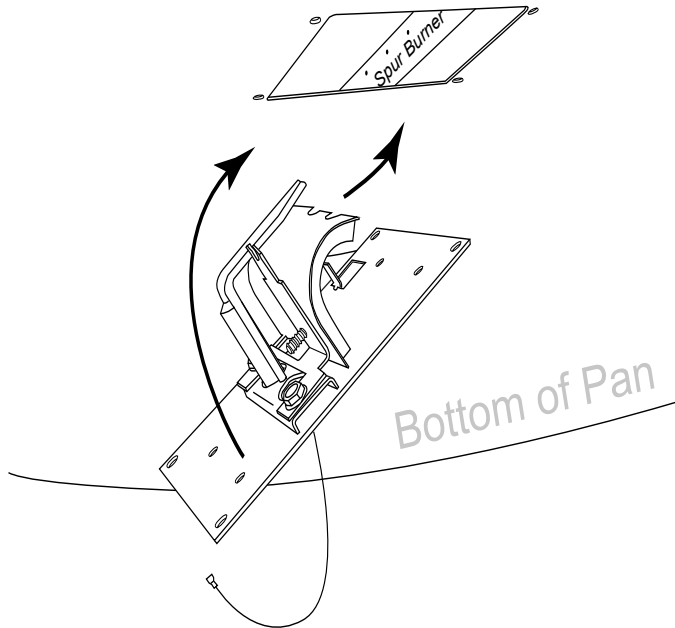

Fig. 14 Installing MSI assembly into bottom of pan.
Step 4: Secure the MSI ignition assembly to the pan using the four previously removed screws. **Note:** The metal tab aligns the burner leg underneath the spur hood as shown in Fig. 14.